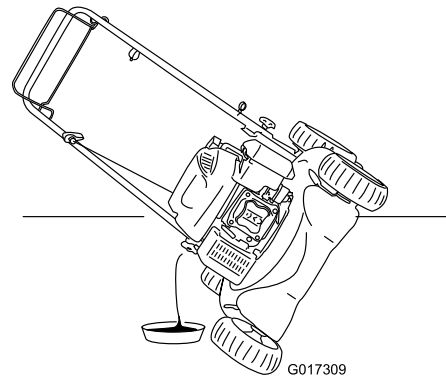

Figure 20
5. Tip the mower onto its side, with the dipstick down, to drain the used oil out through the oil fill tube (Figure 20).